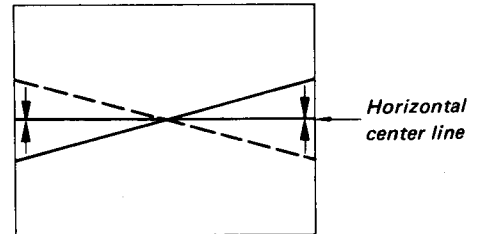

Fig. 3-7
- 2) Rotate the red deflection yoke to make the horizontal center line of cross-hatch pattern horizontal as shown in Fig. 3-7.